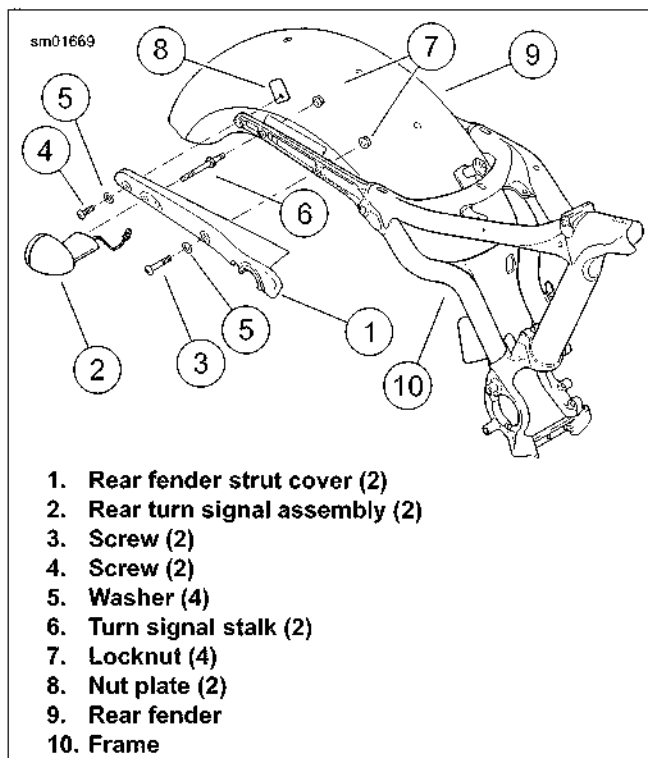

Figure 6-77. Rear Fender Mounting Components (typical)
10. See Figure 6-77. Remove screws (3, 4), washers (5), nuts (7) and nut plate (8). Remove rear fender strut covers (1) with attached turn signal assemblies (2) from rear fender struts. Carefully feed turn signal harnesses through holes in fender and fender struts.
12. Remove turn signal stalk (6) (1) and fender strut cover from each turn signal assembly (2). Separate mount from turn signal housing.